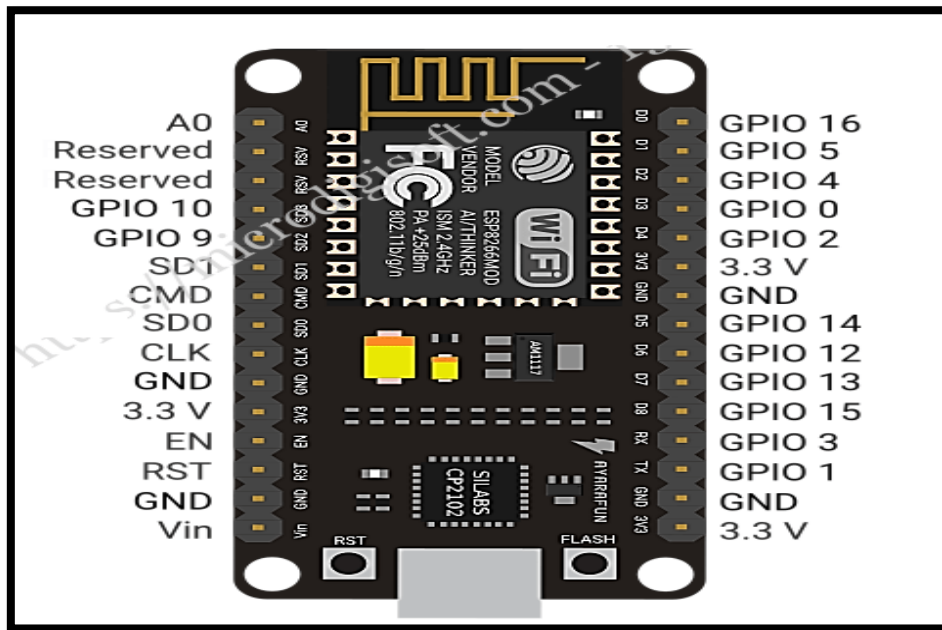

Fig.2.6: Node MCU ESP8266 Pin Diagram
2.3.5 Pin Configuration of Node MCU Development Board (Refer Fig. 2.6)